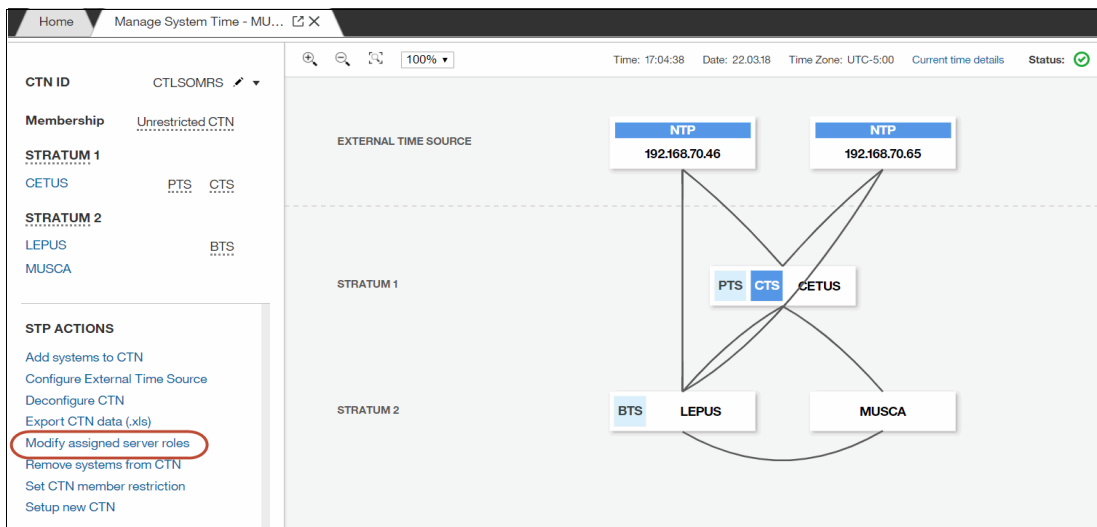

Figure 8-61 Modify server roles
1. Open the Manage System Time task from the HMC that can operate CTN changes to modify the STP roles. Select **Modify assigned server roles** from the STP ACTIONS list (see Figure 8-61).